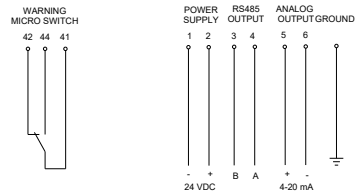

Figure 5
- 1 x change over contact: pre-alarm signal (Terminal 42-44-41 — fig.5)